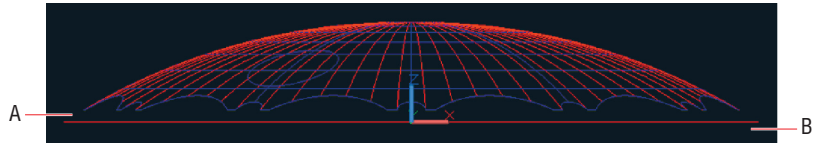

FIGURE 17.13 Selecting lines on the ground in the Front view for deletion
18. Click the Front arrow below the ViewCube. Type E (for Erase) and click points A and B in Figure 17.13 to select all the lines on the ground. Press Enter to erase the selection.